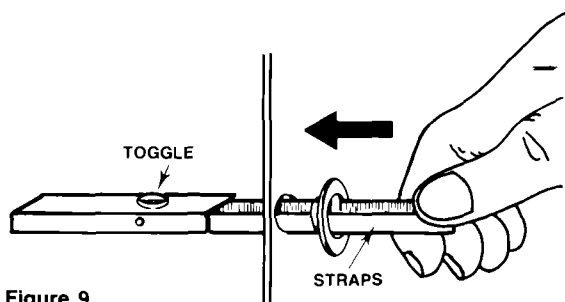

Figure 9
4. Drive a small diameter nail through the center of holes E, F, G & H of the wall template. If a wall stud is hit with the nail, remove the nail, drill 3/16" hole into the stud and use 1/4" x 2" lag screws when attaching wall back support. If you hit drywall only with the nail, drill 5/8" diameter hole and use 1/4" hollow wall anchor bolts. Insert anchor bolts through 5/8" drilled hole; grasp both strap ends firmly. (See figure 9.)